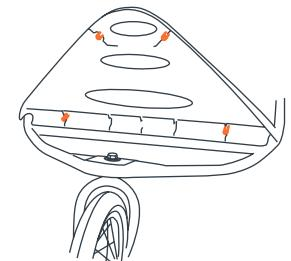

Fig. 5a
5) • Examine the bottom of the front fender. You will notice four 1/4 inch diameter plastic tubes protruding from the bottom. (Fig. 5a).